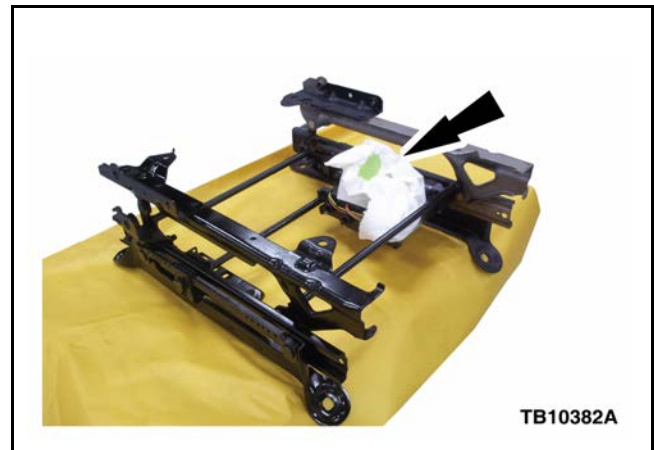

Figure 1 - Article 13-6-2
6. Mask off motor and harness. (Figure 1)